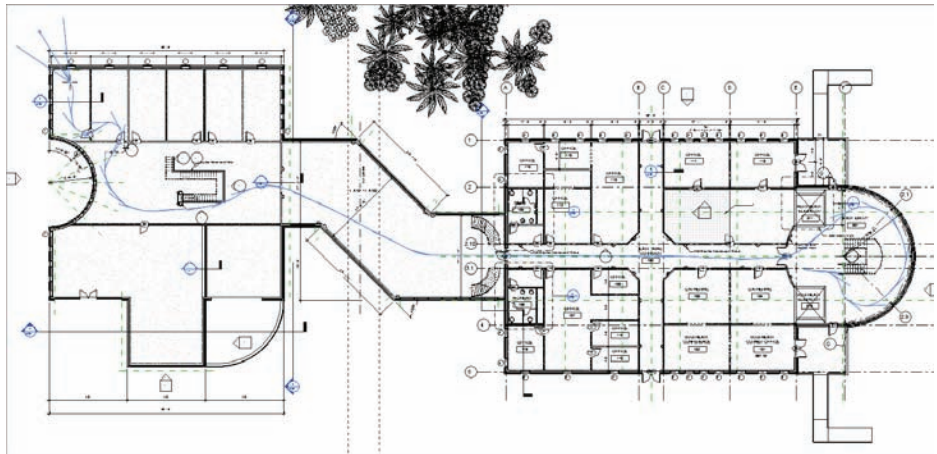

FIGURE 19.20 Sketching the walkthrough path
5. Keep picking points down the hallway, into the corridor, and into the west wing, as shown in Figure 19.20.